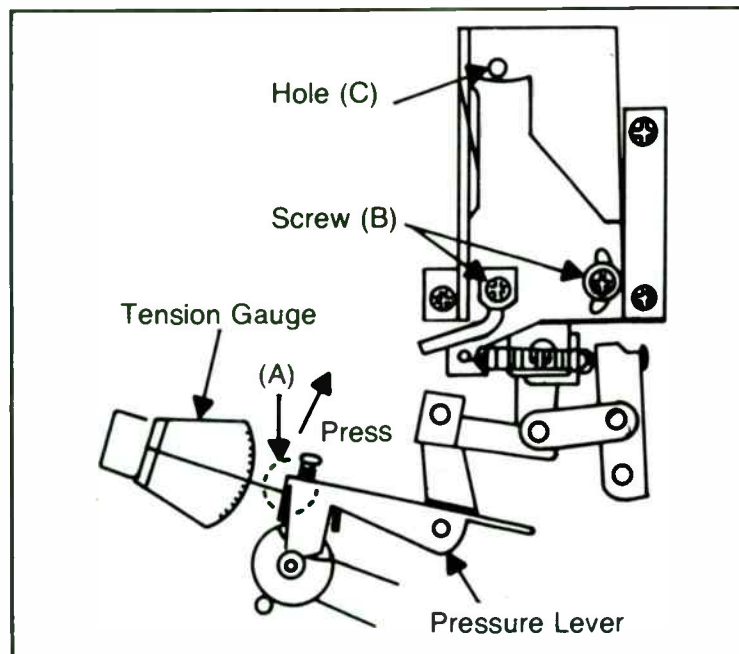

Fig. 10-20. Solenoid plunger adjustment (courtesy of Magnavox).
1—Play back a cassette tape and place the tension gauge to the part (A) of pressure lever. See Fig. 10-20.